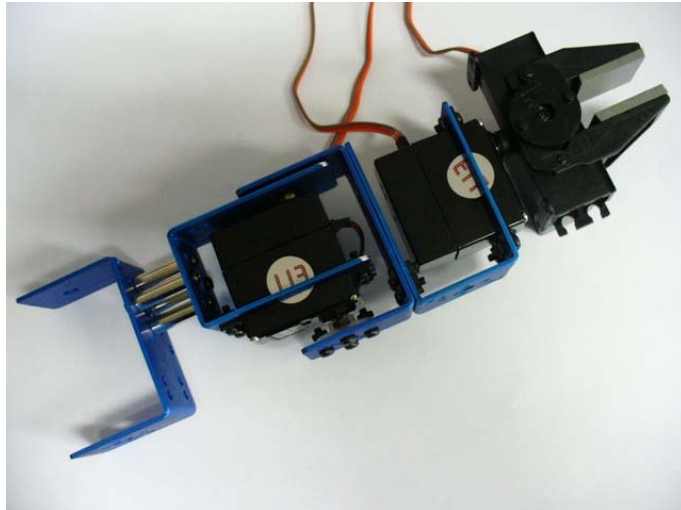

Figure 9 Position to install the servo motor #4
7. Center the servo motor #4 with the servo controller. Install the motor with its horn set piece in the straight position as shown in Figure 9. Put the screws to lock the horn set piece and the brass boot.